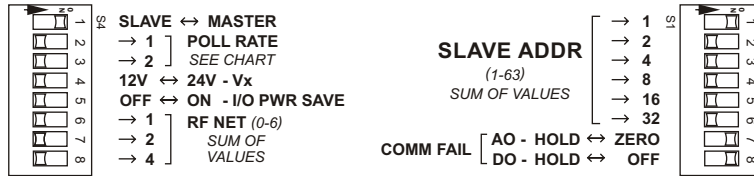

Figure 1: Master Unit Settings
Step 1: Set one unit as the Master. Note that the units are identical, and come with the same default DIP Switch settings. Pick one unit to be the Master and move the upper left DIP switch (S4-1) to the "Master" position. See Figure 1 & 2 below for proper settings.
Figures 1 & 2 below show the typical DIP Switch settings for simple Cable Replacement as described above. Figure 2 shows the factory default settings (Slave), and Figure 1 shows the upper-left DIP Switch S4-1 set for Master function.